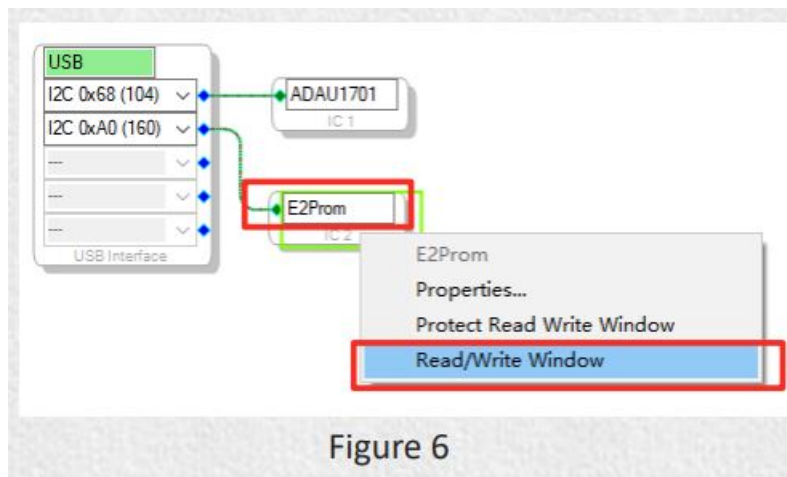
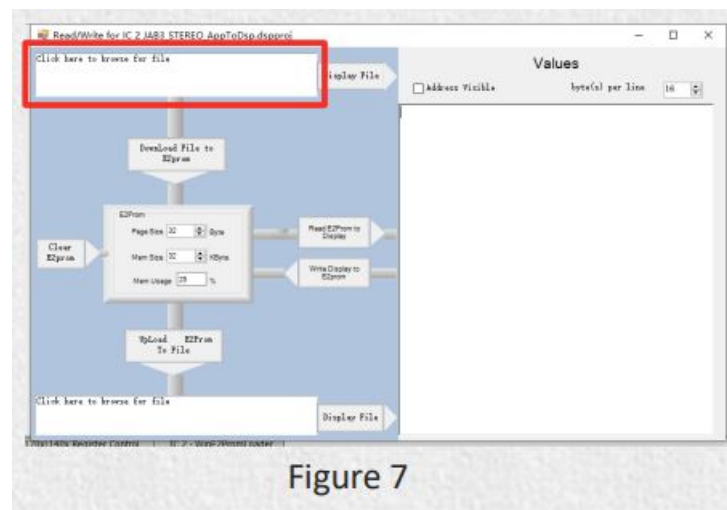

Figure 6
Figure 7
1. Right click the "E2Prom" (see Figure 6) and click 'Read/Write Window'. You will see the following interface (Figure 7).